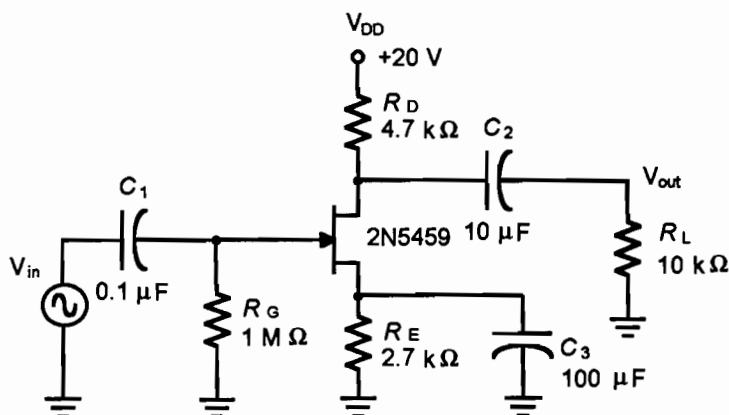

Figure 31.1
1. Build the circuit shown in Figure 31.1. Temporarily omit  $R_L$ . Set the DC power supply for a  $V_{DD}$  of 12 V.
3. If  $C_3$  of Figure 31.1 were to open, what changes would you expect to occur to the DC and AC parameters?
- Build the circuit shown in Figure 31.1. Set the DC power supply for a  $V_{DD}$  of 12 V.